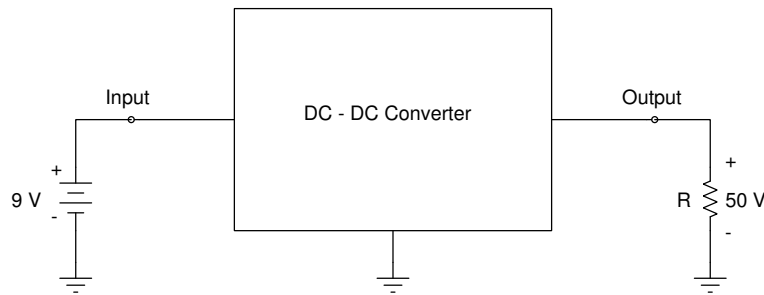

Figure 1: Block diagram of the DC–DC converter.
**Introduction:** This is the second of four labs that will culminate in a DC–DC converter circuit that will convert a 9 volt DC source into a 50 volt DC source. A block diagram of the final system you will design is shown in Figure 1 below.